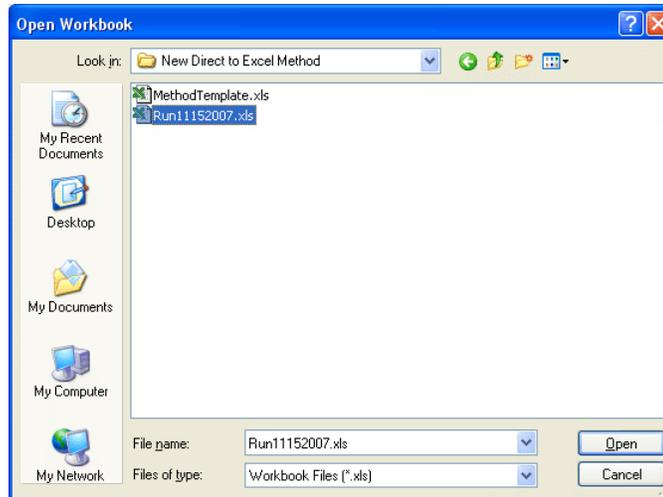

Figure 4.1: Locate the Destination to Open
3. The cursor will be flashing in the File Name text box. Type in the name of the workbook, file or application or browse the directory (see Figure 4.1). Click on the destination name.